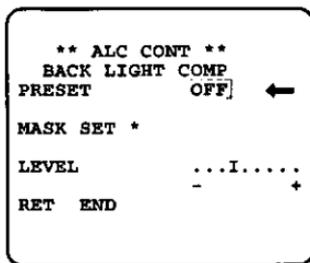

Fig. 33
- Move the cursor to the "PRESET" mode position and select the "OFF" mode by using the Left Switch (<) (7) or Right Switch (>) (6).
- The field setup menu is displayed on the monitor screen as shown in Fig. 33.
- Press the Set Switch (9) if this masking for this area is to be canceled.
- Press the Left Switch (<) (7) and the Right Switch (>) (6) simultaneously when all masking areas are to be canceled.
- After masking is completed, press the Set Switch (9) for more than 2 seconds. The 48 Mask Areas on the monitor screen disappear and the field setup menu as shown in Fig. 33 is then displayed.
- If the video output level (picture contrast) is to be changed, move the cursor to the "LEVEL" mode position and press the Left Switch (<) (7) or Right Switch (>) (6) to adjust the iris of the ALC lens. When the cursor is moved in the right (+) direction, the lens iris is opened wider, causing the video output level to rise. If the cursor is moved in the left (-) direction the reverse takes place.